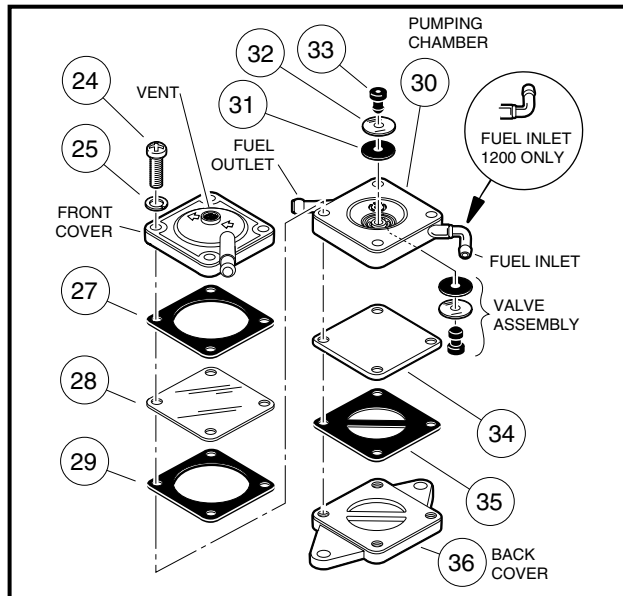
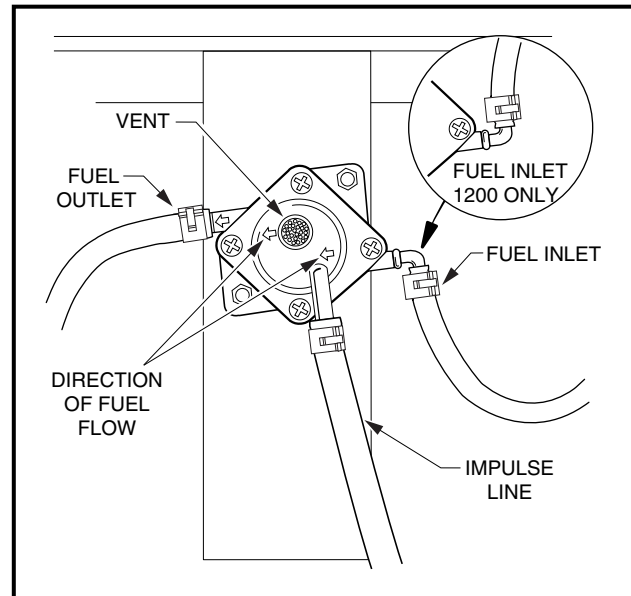

Figure 14-12 Bobcat 2100 and 2100S Fuel Pump
Figure 14-13 Bobcat 2100 and 2100S Pump Mount
1. Remove four screws (24) and lock washers (25) from front of the fuel pump (**Figure 14-12, Page 14-21**).
3. Note the orientations of the impulse gasket (27), the diaphragm (28), and the gasket (29), then remove them from the pump. **See following CAUTION.**
2. Inspect the valve assemblies (31, 32, and 33), gaskets and diaphragms for damage (**Figure 14-12, Page 14-21**).
3. If a valve assembly is damaged, the rubber retaining plug (33) and valve assembly must be replaced.
1. Install the fuel gasket (35) and diaphragm (34) on the back cover (36) (**Figure 14-12, Page 14-21**).
2. Install the valve assembly in the pumping chamber (30). **See following CAUTION.**
3. Install the pumping chamber (30) on top of the fuel diaphragm (34). Be sure the fuel inlet and the fuel outlet align with the arrows on the front of the front cover (**Figure 14-12, Page 14-21**).
4. Install the gasket (29), clear impulse diaphragm (28), and the paper impulse gasket (27) to the pumping chamber (30).
5. Install the front cover and then the lock washers (25) and four screws (24) on the assembly. Be sure the arrows on the front cover point from the fuel inlet to the fuel outlet (**Figure 14-13, Page 14-21**). Tighten the screws to 26 in-lb (3.0 N·m).